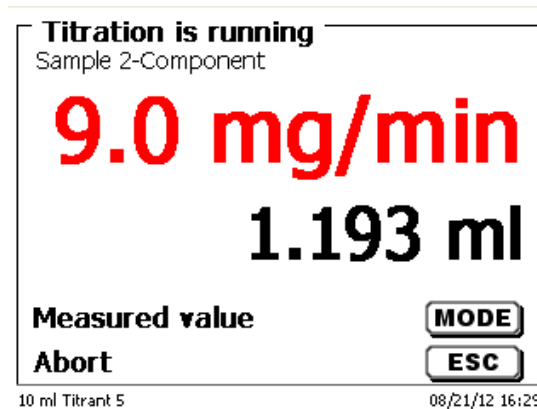

Fig. 75
- the use in ml with the drift in $\mu\text{g}/\text{min}$ (Fig. 75),